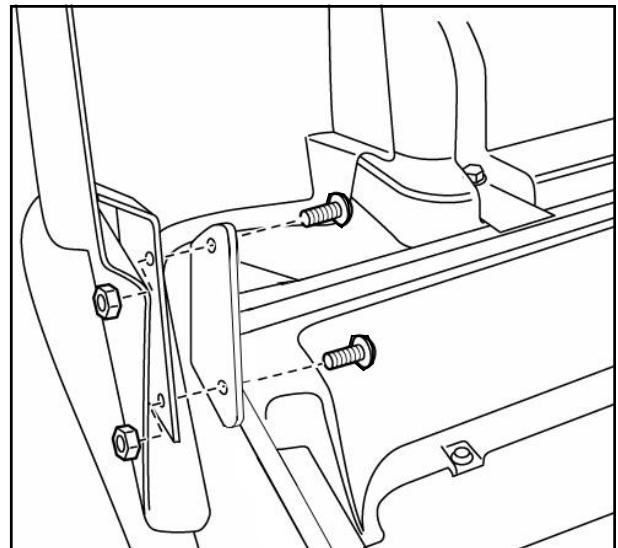

Figure 6: Fasten Lower Rear of Side Frame
2.2. Fasten to underseat mount using 1/4-20 x 3/4" long black Hex Head bolts and 1/4-20 nylon locknuts. (Figure 6) NOTE: locknuts to be on the outside as shown.